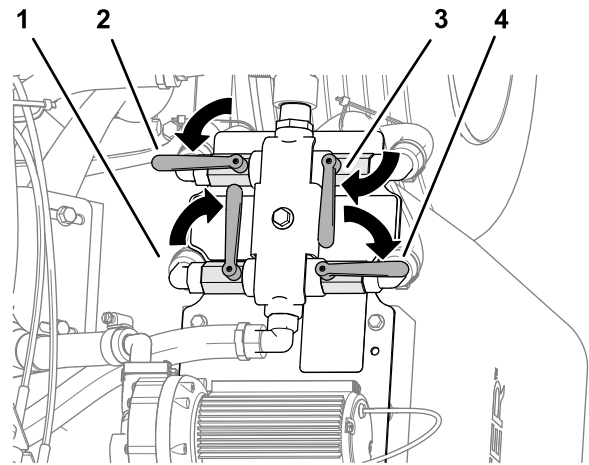

**Figure 35**
3. Loosen the locknut, and open the throttle valve (Figure 35).